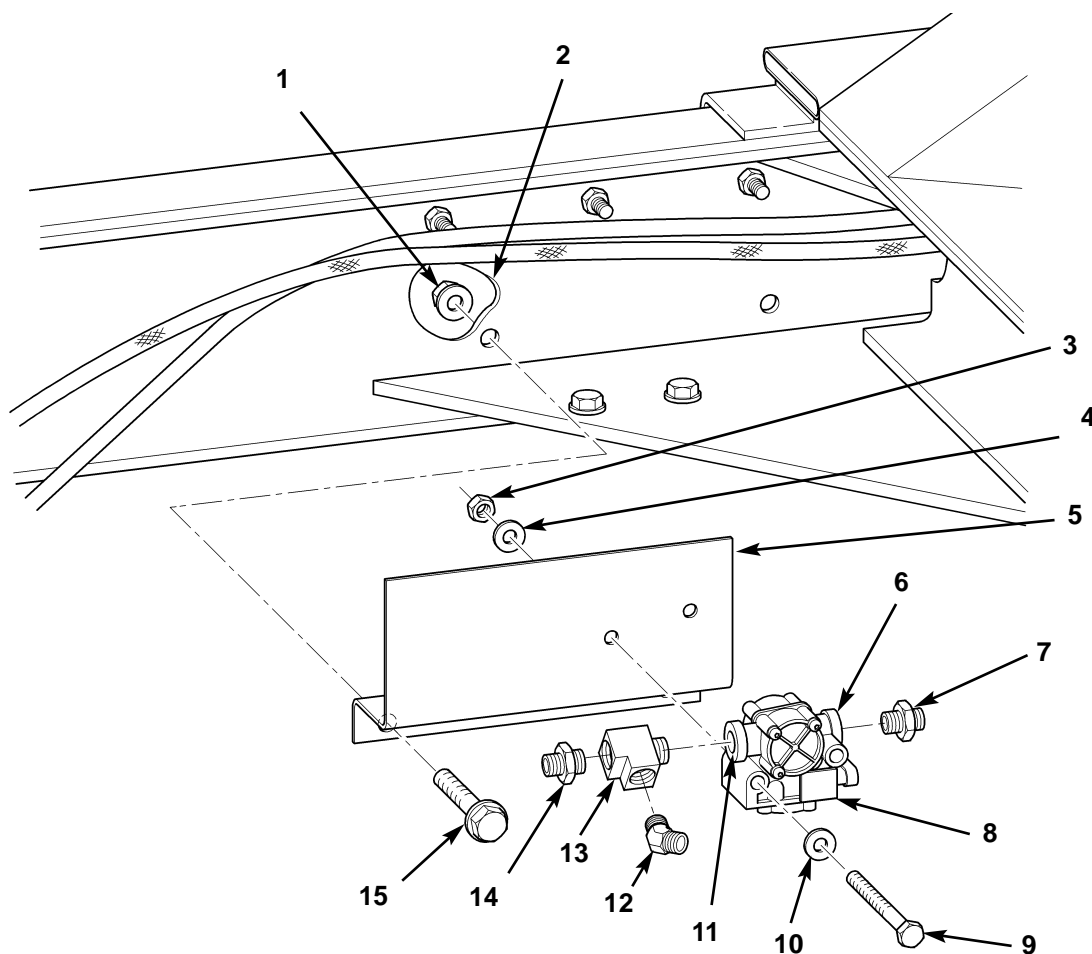
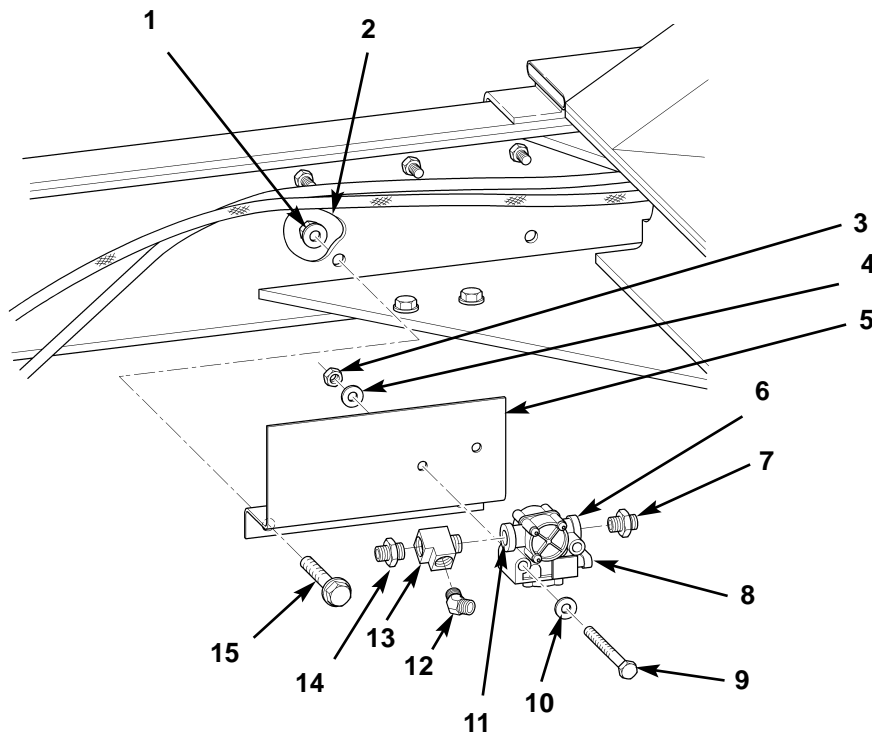

Figure 4. Removing Rear Modulator.
Figure 5. Installing Rear Modulator.
4. Remove two locknuts (figure 4, item 1), bolts (figure 4, item 15), and rear modulator bracket (figure 4, item 5) from frame rail (figure 4, item 2). Discard locknuts (figure 4, item 1).
5. Remove two locknuts (figure 4, item 3), washers (figure 4, item 4), bolts (figure 4, item 9), washers (figure 4, item 10), and rear modulator (figure 4, item 8) from rear modulator bracket (figure 4, item 5). Discard locknuts (figure 4, item 3).
6. Remove elbow (figure 4, item 12) and adapter (figure 4, item 14) from tee (figure 4, item 13).
7. Remove tee (figure 4, item 13) from rear modulator outlet (figure 4, item 11), and remove adapter (figure 4, item 7) from rear modulator inlet (figure 4, item 6).
1. Install adapter (figure 5, item 7) on rear modulator inlet (figure 4, item 6), and install tee (figure 5, item 13) on rear modulator outlet (figure 4, item 11).
2. Install adapter (figure 5, item 14) and elbow (figure 5, item 12) on tee (figure 5, item 13).
3. Install rear modulator (figure 5, item 8) on rear modulator bracket (figure 5, item 5) with two washers (figure 5, item 10), bolts (figure 5, item 9), washers (figure 5, item 4), and new locknuts (figure 5, item 3).
4. Install rear modulator bracket (figure 5, item 5) on frame rail (figure 5, item 2) with two bolts (figure 5, item 9) and new locknuts (figure 5, item 1).